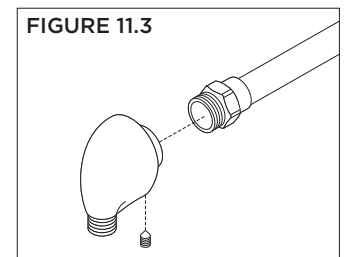

FIGURE 11.3
3) Install wall elbow to stub out pipe. Tighten set screw to secure (FIGURE 11.3).